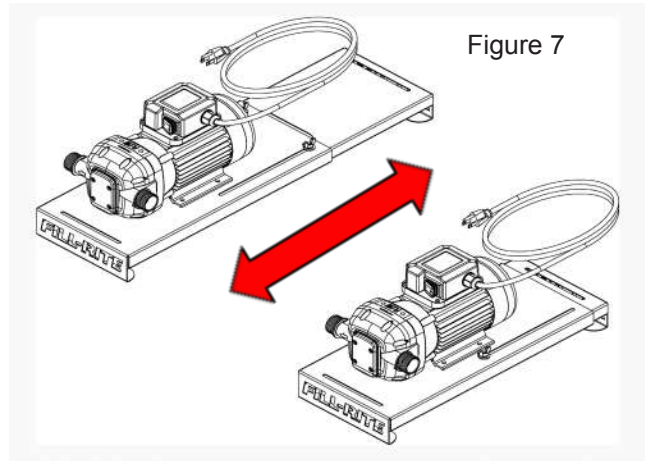

Figure 7
1. Adjust Drum Kit to fit a 30 or 55 Gallon drum by unlocking both wing nuts and sliding bracket to adjust for with drum diameter (Figure 7).